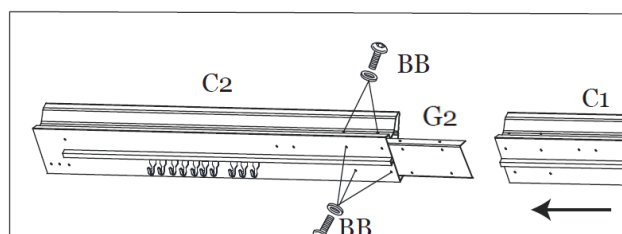

Figure 2-5
Step 2E: Attach Short Lintel (C2) to Lintel Connector (G2) using Bolts (BB). Attach Short Lintel (C1) to Lintel Connector (G2) using Bolts (BB). **Note:** Leave 1 Bolt Hole open on both Short Lintels (C1 and C2) for Step 2F. See Figures 2-5 and 2-6.